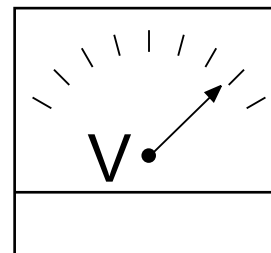

Figure 28. Voltmeter
4. The generator's AC-voltmeter (Figure 28) will display the generator's output in **VOLTS**.